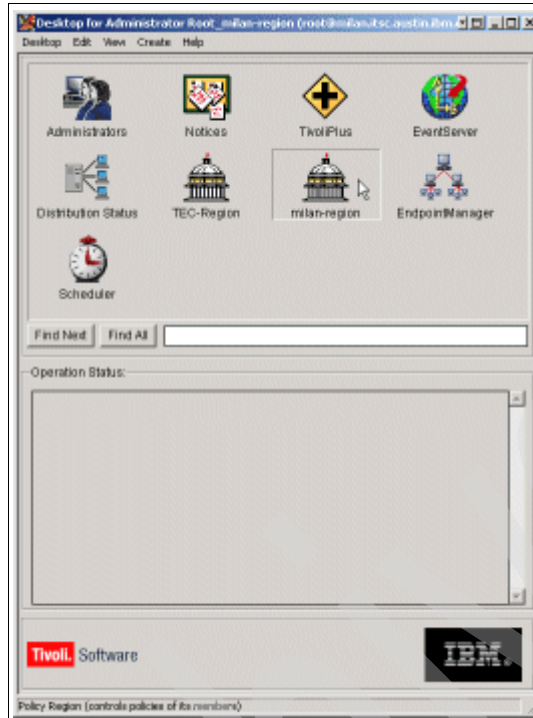

Figure 8-14 Opening the milan-region Policy Region to create a profile manager
2. Open an appropriate Policy Region for creating a new profile manager as directed by your Tivoli Framework administrator. In our lab environment, we opened the Policy Region milan-region as shown in Figure 8-14 on page 353.